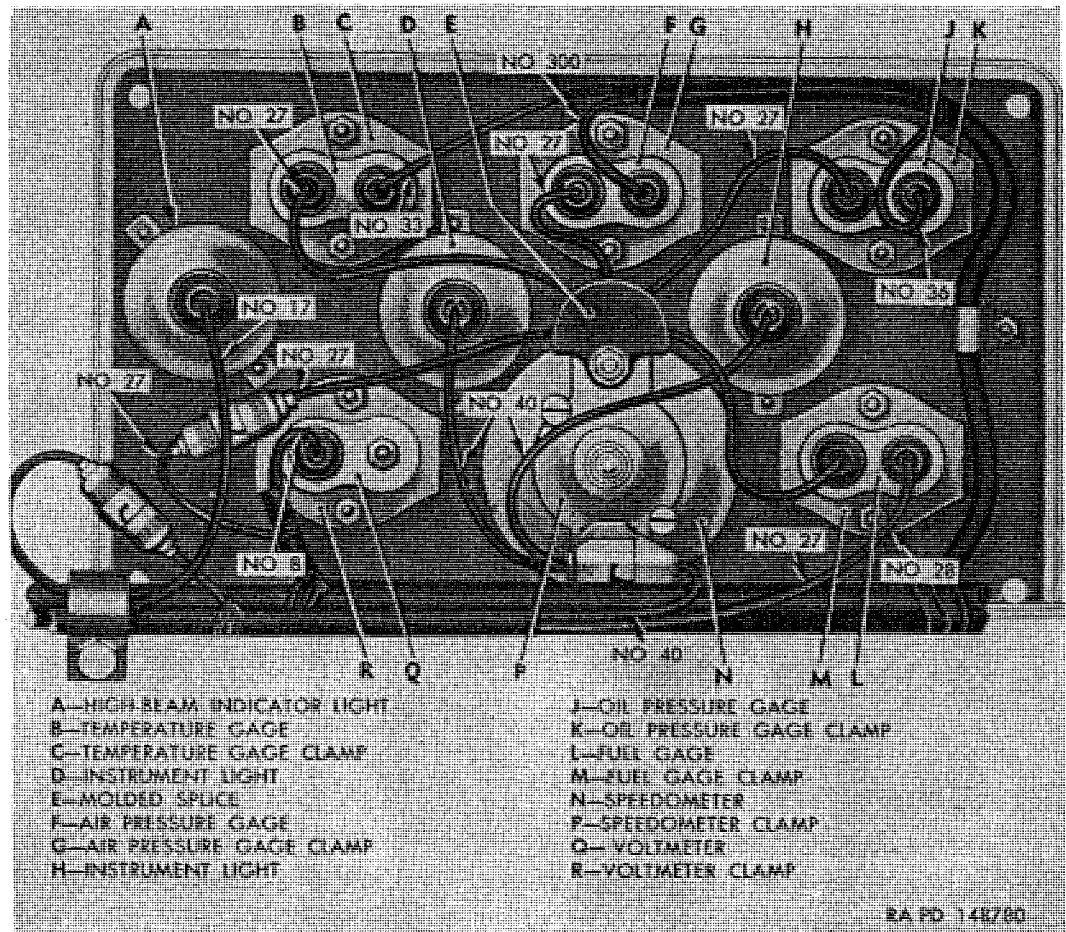
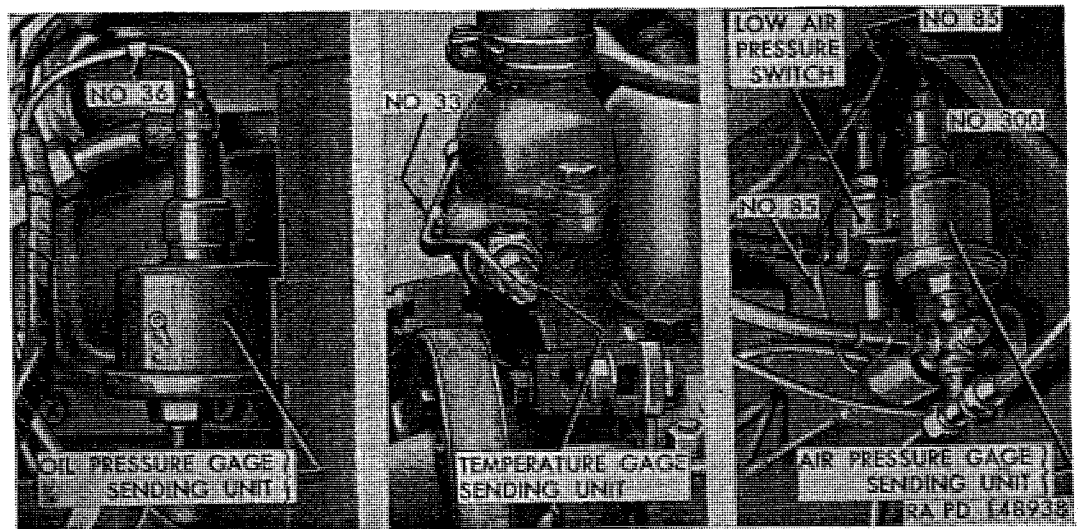

Figure 171. Instrument cluster, rear view.
Figure 172. Sending units and low air pressure switch installed.
a. Instrument Cluster. The instrument cluster, located in center of instrument board, contains the battery-generator indicator, engine temperature gage, oil pressure gage, fuel gage, air pressure gage, and speedometer (C, fig. 30). Instrument lights and high-beam indicator light are mounted on back of instrument cluster (fig. 171). Instrument cluster may be removed as a complete assembly to facilitate replacement of the individual units.
- (1) Disconnect speedometer flexible shaft from speedometer at rear of instrument cluster (fig. 171).
- (2) Remove four cap screw and lockwasher assemblies attaching instrument cluster to instrument board. Tip cluster out of instrument board, disengaging harness from clip at right side of cluster.
- (3) Replacement of individual units in instrument cluster can be made with cluster in this position. To remove complete cluster assembly, disconnect all harness cables from units on cluster.
- (1) If instrument cluster (fig. 171) was completely removed, position cluster at instrument board and connect harness cables to instrument cluster units. Refer to figure 171 or to wiring circuit diagram (fig. 167 or 168) to identify number on each cable and unit to which it connects.
- (2) Engage harness in clip at right end of instrument cluster, position cluster against instrument board, and attach with four $\frac{5}{16}$ -24 x $\frac{5}{8}$ cap screws with external-teeth lockwashers.
- (3) Connect speedometer flexible shaft to speedometer at rear of instrument cluster.
a. *General.* Oil pressure gage registers oil pressure in engine main oil gallery. Gage circuit is controlled by a sending unit mounted on right side of engine above starter and connected to oil line leading from engine oil gallery to oil filter (fig. 172).
b. Oil Pressure Gage Removal (fig. 171).
- (1) Remove instrument cluster from instrument board (par. 172a).
- (2) Disconnect two cables from oil pressure gage terminals.
- (3) Remove nut and lockwashers from two studs attaching oil pressure gage clamp (k) to back of gage. Remove clamp; then pull gage out front of cluster.
c. Oil Pressure Gage Installation (fig. 171).
- (1) Position gage in instrument cluster from front side. Place oil pressure gage clamp (k) over two studs on gage, install lockwasher and nut on each stud, and tighten nuts.
- (2) Connect cable No. 36 to female terminal on gage, and connect cable No. 27 from molded splice to male terminal on gage.
- (3) Install instrument cluster (par. 172b).
d. Oil Pressure Gage Sending Unit Removal (fig. 172). Disconnect cable No. 36 from terminal on top of sending unit. Unscrew sending unit from bracket on engine cylinder block.
e. Oil Pressure Gage Sending Unit Installation (fig. 172). Thread sending unit into bracket on engine cylinder block and tighten. Do not use sealing compound on sending unit threads as the electrical circuit is grounded through the sending unit mounting. Connect cable No. 36 to terminal on top of sending unit.
b. Fuel Gage Replacement (fig. 171). Fuel gage replacement procedure is same as for oil pressure gage (par. 173). Cable No. 27 from molded splice connects to gage male terminal, and cable No. 28 connects to gage female terminal.
a. General. Temperature gage in instrument cluster registers temperature of engine coolant in degrees Fahrenheit. Temperature gage circuit is controlled by a temperature gage sending unit installed in engine thermostat housing as shown in figure 172.
b. Temperature Gage Replacement (fig. 171). Temperature gage replacement procedure is same as for oil pressure gage (par. 173). Cable No. 27 from molded splice connects to gage male terminal, and cable No. 33 connects to gage female terminal.
c. Temperature Gage Sending Unit Removal (fig. 172). Disconnect cable No. 33 from sending unit terminal. Unscrew sending unit from thermostat housing.
d. Temperature Gage Sending Unit Installation (fig. 172). Thread sending unit into engine thermostat housing and tighten. Do not use sealing compound on sending unit threads as the electrical circuit is grounded through the sending unit mounting. Connect cable No. 33 to sending unit terminal.
a. General. Air pressure gage in instrument cluster registers air pressure in air system. Air pressure gage circuit is controlled by a sending unit. Sending unit (fig. 172) is mounted on cowl inside cab and is connected to air system at air line junction fitting on cowl.
b. Air Pressure Gage Replacement (fig. 171). Air pressure gage replacement procedure is same as for oil pressure gage (par. 173). Cable No. 27 from molded splice connects to gage male terminal, and cable No. 300 connects to gage female terminal.
c. Air Pressure Gage Sending Unit Removal (fig. 172). Exhaust air pressure from air system. Disconnect cable No. 300 from sending unit terminal. Unscrew sending unit from air line junction fitting on cowl.
d. Air Pressure Gage Sending Unit Installation (fig. 172). Thread sending unit into top of air line junction fitting on cowl and tighten. Do not use sealing compound on sending unit threads as the electrical circuit is grounded through the sending unit mounting. Connect cable No. 300 to sending unit terminal.
178. Speedometer and Flexible Shaft (fig. 171)